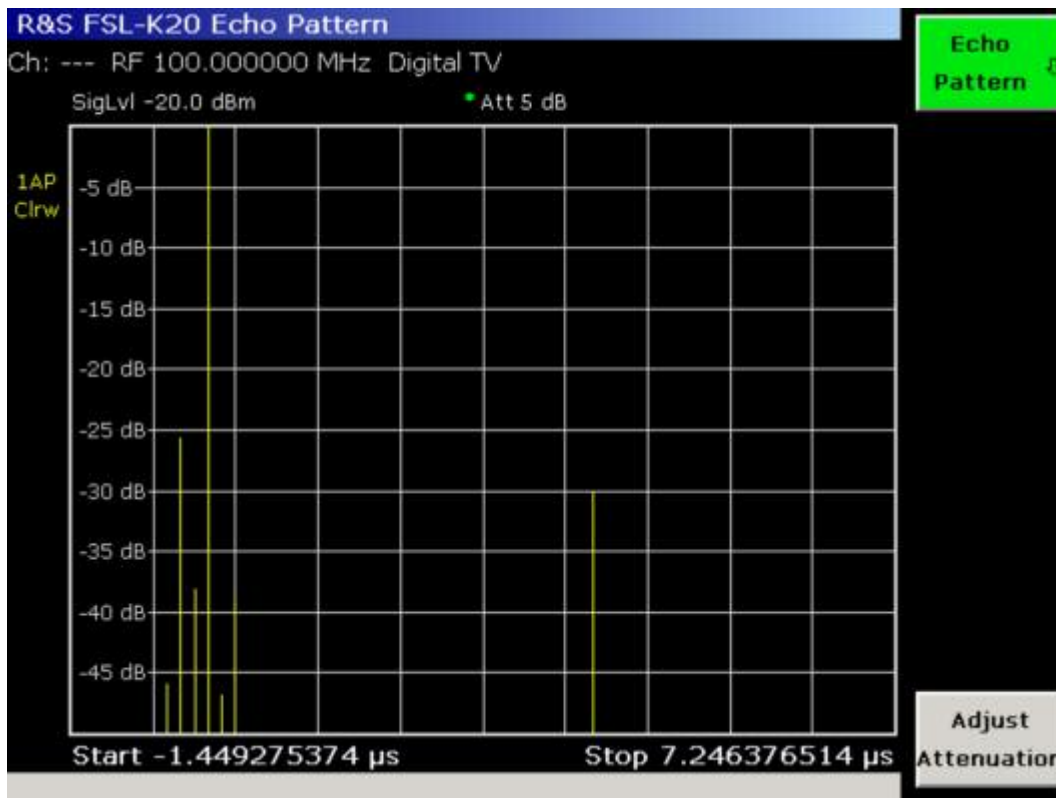

Fig. 2–56 Digital TV Echo Pattern measurement
- Press the **Digital TV Settings** softkey (see Fig. 2–51).